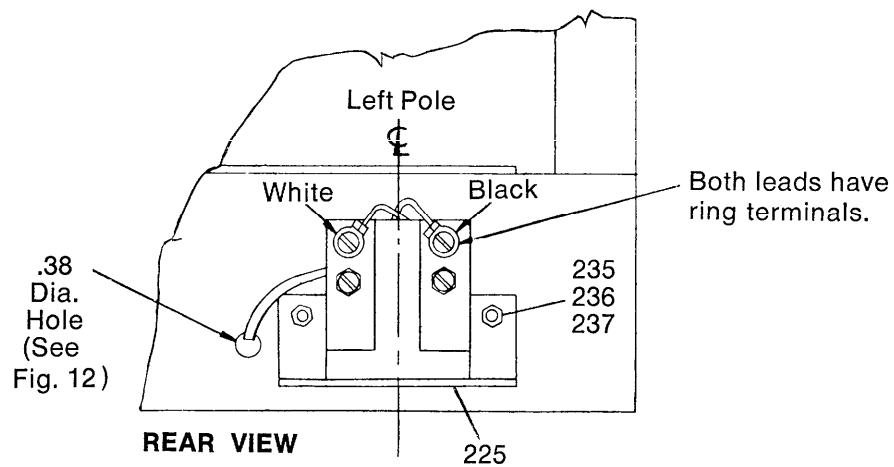

Fig. 14 — Mounting of 4th-wire neutral sensor disconnect block on drawout breaker (when used). See fig. 15.
- On drawout breakers being equipped with 4-wire ground fault, mount the neutral sensor disconnect block 225 on the rear surface of the back frame per Figs. 14 and 15, using existing holes.